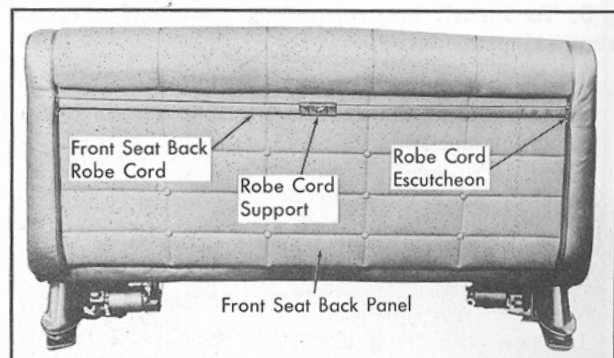

Fig. 17-45 Rear View of Front Seat
1. Remove screws securing escutcheon at each end of robe cord and slide escutcheon toward center of robe cord, Fig. 17-45.
(70) Front Seat Back Panel Removal and Installation